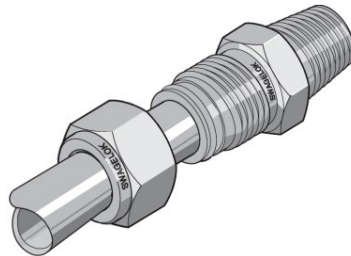

Figure 12 - Ferrules Seated Against Fitting Body
- 4) Reassemble the fitting by inserting the tube with preswaged ferrules into the fitting until the front ferrule seats against the fitting body (Figure 12).